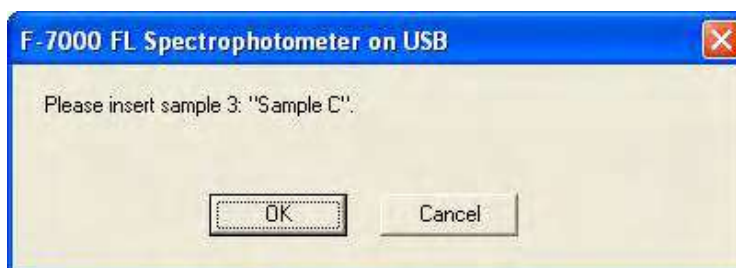

Fig. 4-43
- ② Click the **Remeasure(F8)** button. A window as shown in Fig. 4-43 will appear.